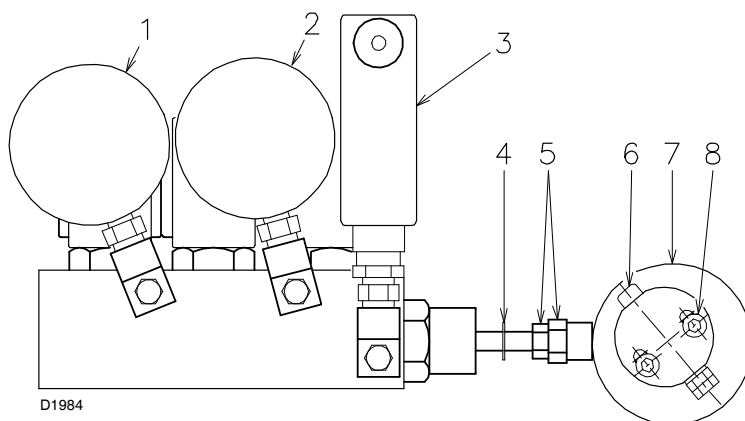
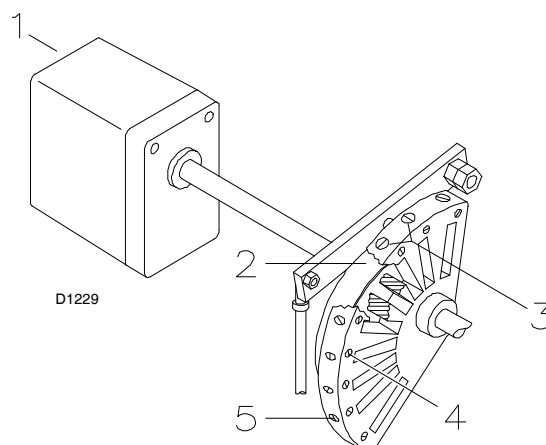

Fig. 24
Fig. 27
The fuel pressure on the nozzle delivery is adjusted on the pressure transformer unit and displayed on the pressure gauge 1)(Fig. 24).
The fuel pressure on the nozzle return is adjusted on the pressure transformer unit and displayed on the pressure gauge 2)(Fig. 24).
The adjustment of the MINIMUM pressure of the fuel on the nozzle return must be carried out solely by means of the nut 5) (Fig. 24); screw down said nut to decrease the pressure and unscrew to increase it.
The adjustment of the MAXIMUM pressure of the fuel on the nozzle return must be carried out solely by means of the eccentric 6) (Fig. 24) screw 7) (Fig. 24); screw down said screw to increase the pressure and unscrew to decrease it.
Adjustment of the air is carried out by means of the screws 3) of the variable profile cam 2)(Fig. 27 page 23) which control the air damper; screw down said screws to increase the air delivery and unscrew to decrease it.
Before firing the burner, make sure that the air and fuel regulation parts are workable; in other words loosen the screws 4) of the cam 2) (Fig. 27), loosen the nut and lock nut 5) (Fig. 24) and the two screws 8) (Fig. 24) of the pressure transformer unit and eccentric (Fig. 24).
Adjust the pressure of the fuel on the nozzle return, **operating solely by means of the nut 5) (Fig. 24)**; the desired pressure for firing and minimum output is set in this manner.
Once maximum opening of the servomotor has been achieved, adjust the pressure of the fuel on the nozzle return again only by means of the screw 6) (Fig. 24) of the eccentric; the desired pressure for maximum output is set in this manner.
Screw down the screw 6) (Fig. 24) only until it corresponds to an increase in pressure; in this way a variation on the whole rotation angle is ensured.
At this point lock the nut and the lock nut 5) (Fig. 24) and the two screws 8) (Fig. 24) of the pressure transformer unit.
Only after having set the minimum and maximum pressure, carry out an accurate setting of the combustion on different positions of modulation operating solely on the setting of the air delivery by means of the screws 3) (Fig. 27) of the cam.
Once the setting of the combustion is complete, lock the screws 4) (Fig. 27) and check ignition once again: noise emission at this stage must be identical to the following stage of operation. If you notice any sign of pulsations, reduce the ignition stage delivery.
- The proper setting of the eccentric 7) (Fig. 24, page 22) is possible when its operation field follows the servomotor operation field ($20^\circ \div 130^\circ$): so, that every variation of the servomotor position corresponds to a pressure variation.
- Do not let the piston beat repeatedly: the stop ring 4) (Fig. 24, page 22) determines the max. stroke.